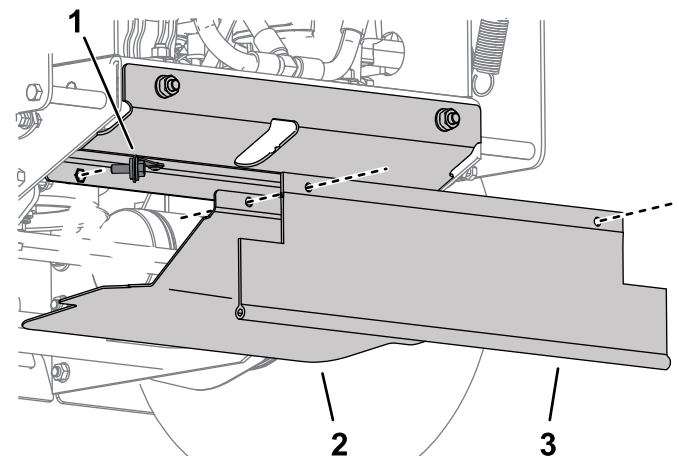

Figure 9
7. Test fit the underside guard and adjust the position of the drive pulley guard if necessary (Figure 9).
8. Install the underside guard and drag shield to the drive pulley guard and secure them with the bolts captured in the lanyards on the drive pulley guard (Figure 9).